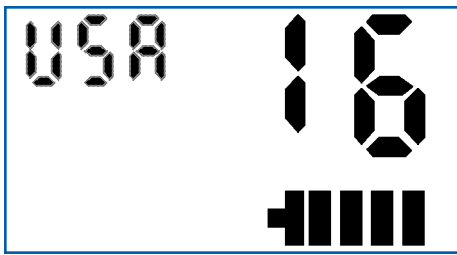

Fig. 6a: USA Mode Display
- When Country Mode is changed, Channel 16 is automatically selected, not the last channel used. (Figs. 6a–6c)